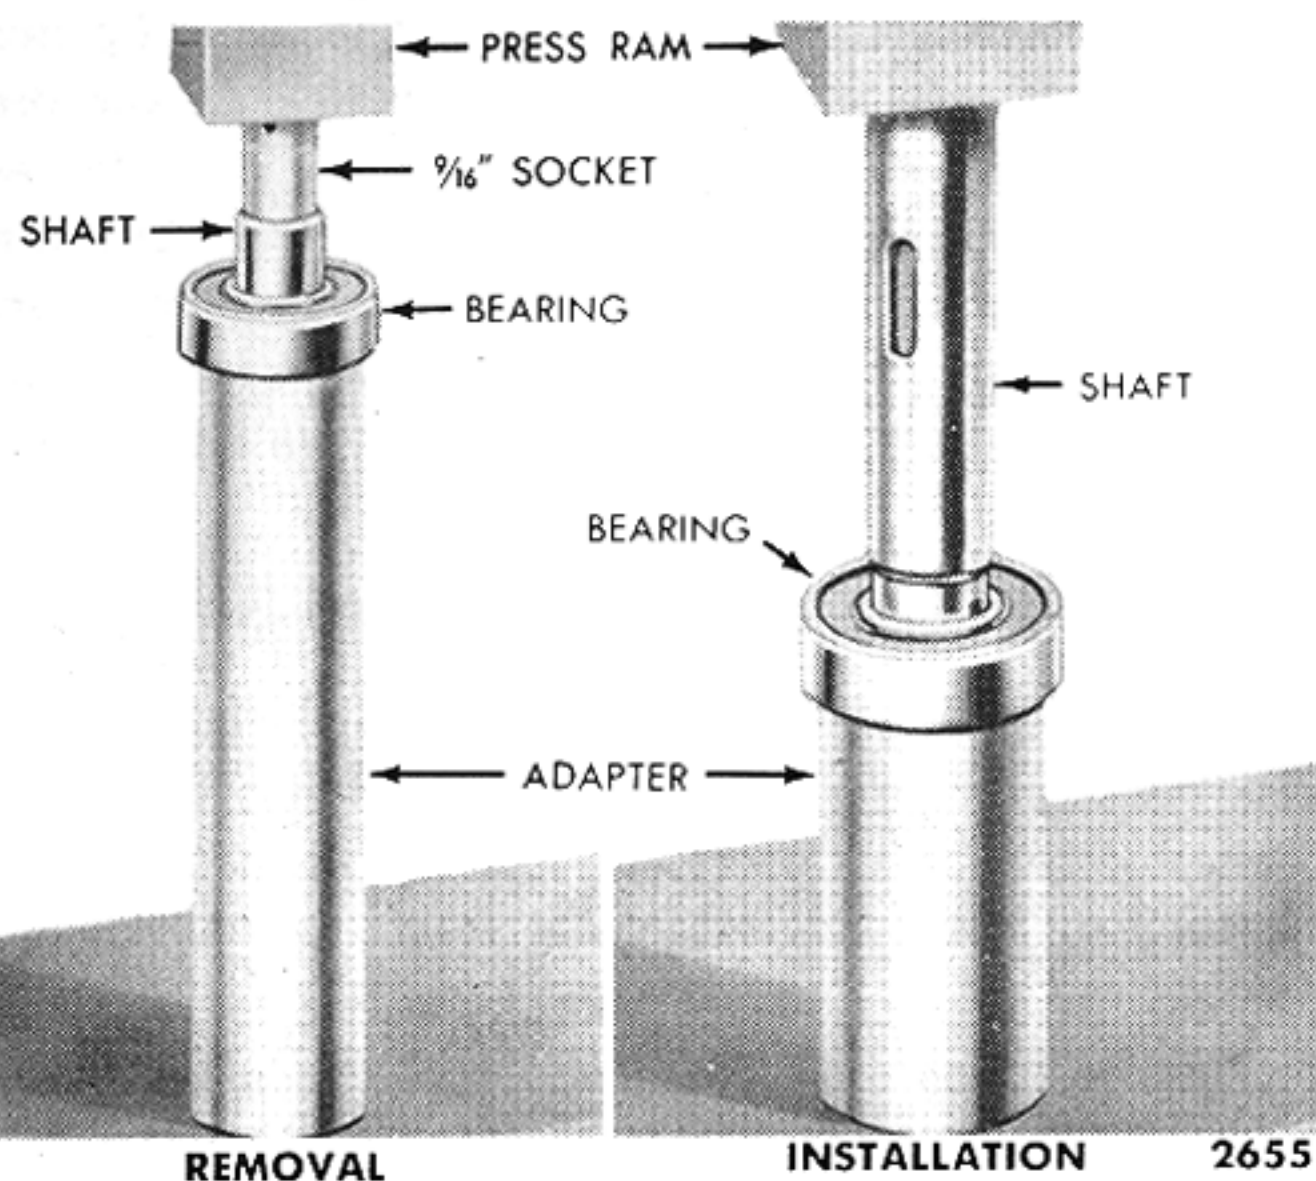

Figure 7—Rotor Shaft and Bearing Replacement
11. Press or tap the rotor shaft and bearing from the oil pump housing, being careful not to damage the shaft or bearing. Inspect the rotor shaft bearing for smooth operation or for wear and other damage. If replacement is necessary, press the bearing off the shaft using an arbor press and an adapter which will bear against the bearing inner race. See Figure 7.
1. Press the rotor shaft bearing onto the rotor shaft, as shown in Figure 7, until the bearing is seated against the shoulder on the shaft. Tap the shaft and bearing assembly into the pump body until the bearing is seated in the body.